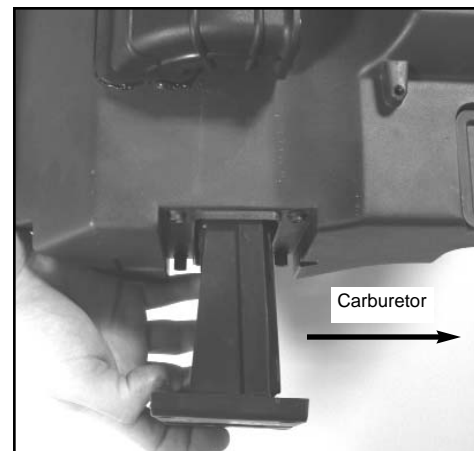

Fig. 2
5. Install the air filter holder into the air box. (Fig. 2)